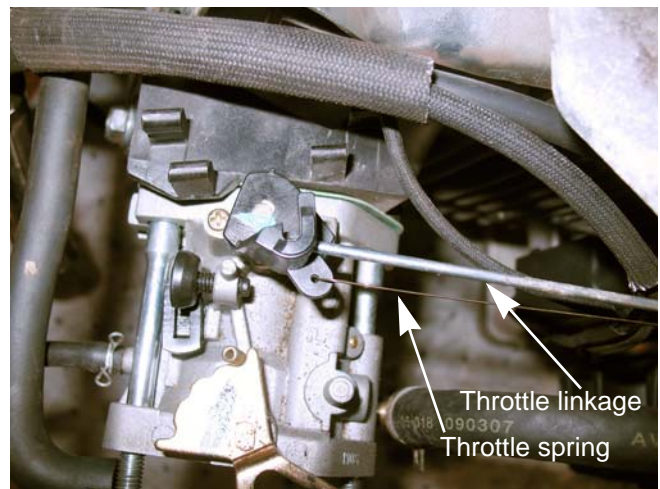

Figure 3.5
- 3c. Disconnect the throttle linkage and spring. See Figure 3.5.